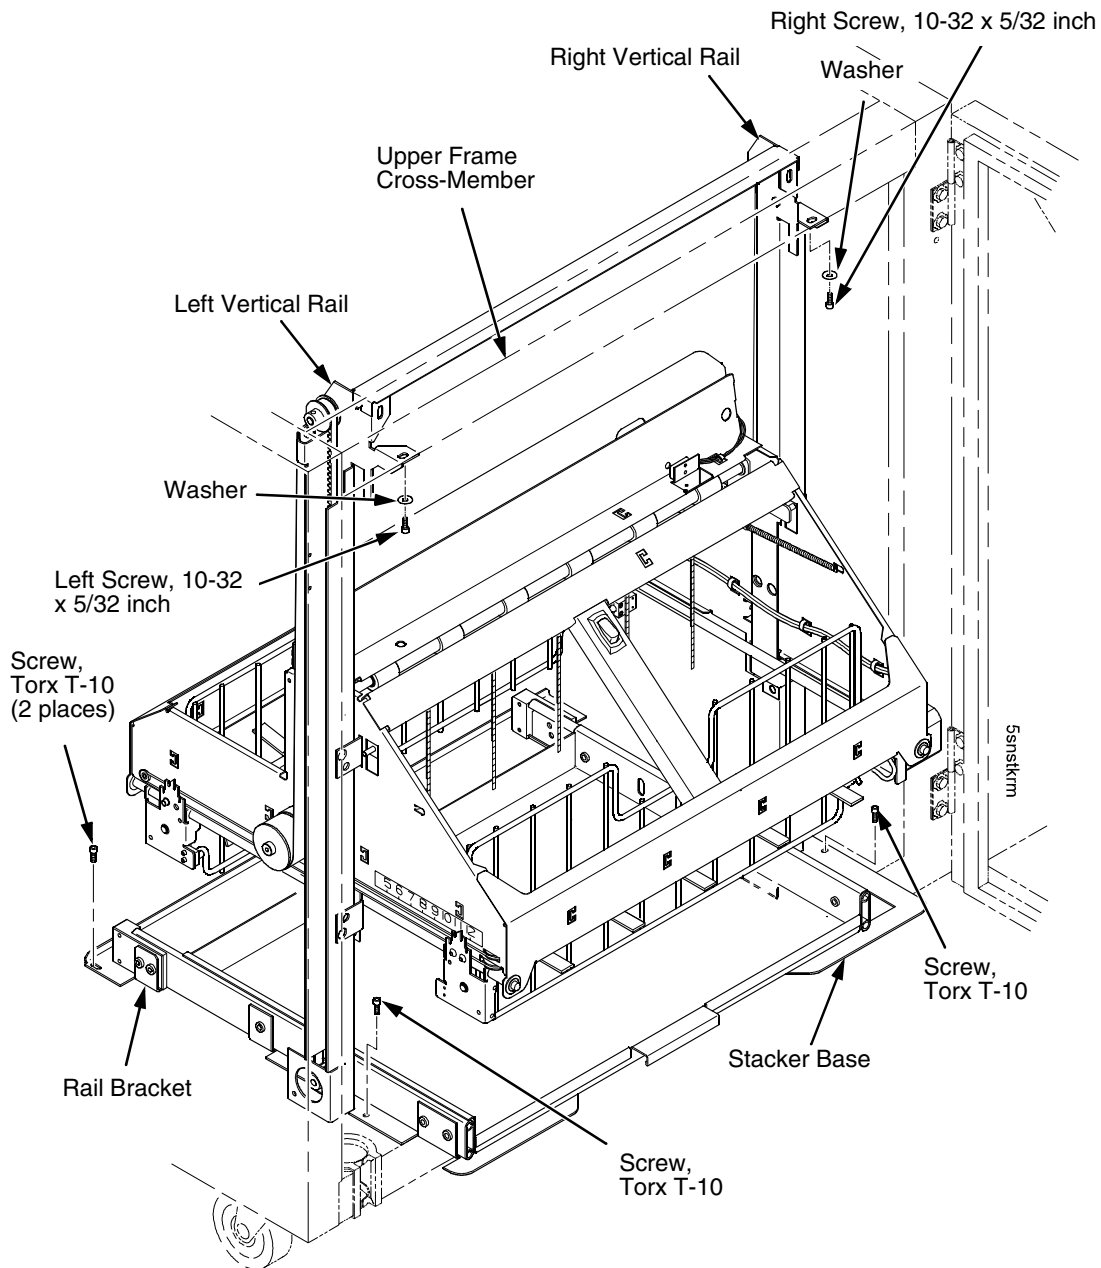

Figure 86. Stacker Fasteners
16. Align the holes in the vertical rail brackets with the holes in the upper frame cross-member. (Figure 85c and Figure 86.)
(Figure 85c and Figure 86)
18. Install finger tight the 10-32 x 5/32 inch buttonhead screw and washer securing the left vertical rail to the upper frame cross-member. (Do not install the right hand screw yet.) (Figure 86.)
19. Install and tighten the two Torx T-10 screws securing the stacker base to the cabinet floor. (Figure 86.)
20. Install and tighten the two Torx T-10 screws that secure the rail bracket to the cabinet floor. (Figure 86.)
27. Install finger tight the 10-32 x 5/32 inch buttonhead screw and washer securing the right vertical rail to the upper frame cross-member. (Figure 86.)